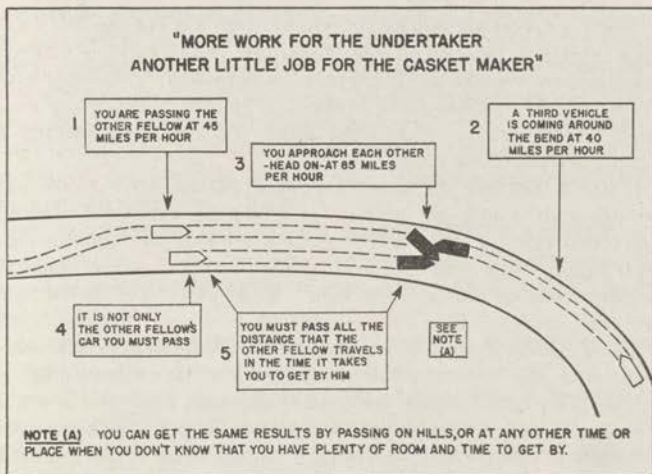

FIGURE 7.
d. There is always danger in passing.—If in order to overtake and pass another vehicle, you have to drive into a lane in which traffic is moving in the opposite direction, you must be extremely cautious and skillful in estimating distances and judging speeds. A mistake in judgment may cause a head-on collision with another vehicle. (See fig. 7.) Head-on collisions are no joke. Use care and avoid them.